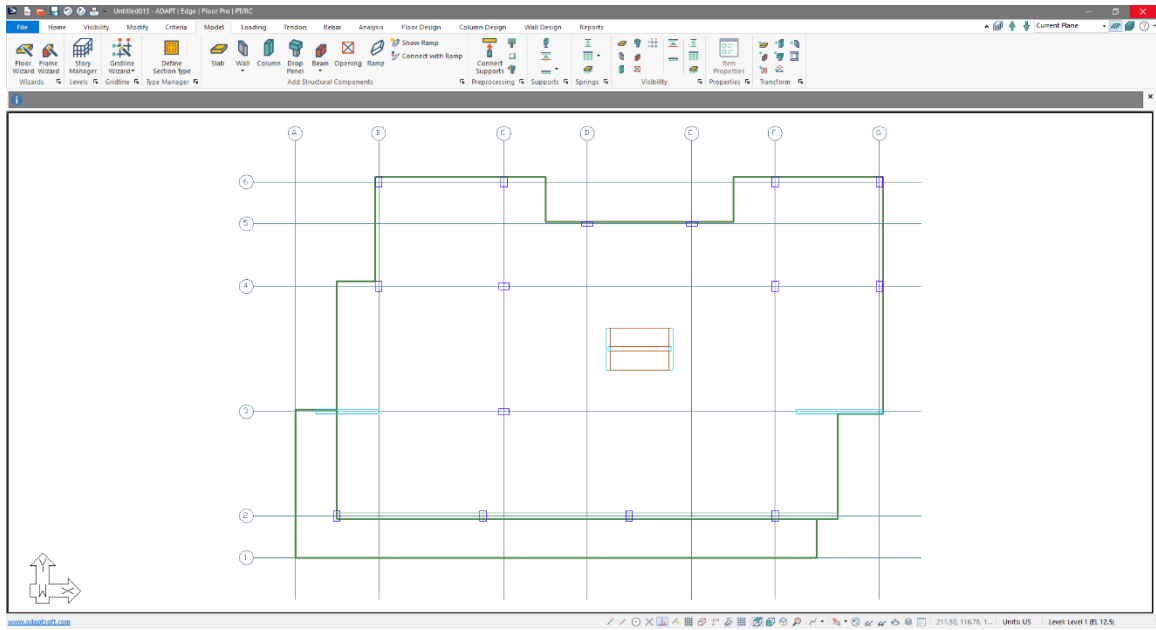

Figure 2-35
- Click on the *Zoom Extents*  icon. The user should see the beams modeled as shown in **FIGURE 2-35**.